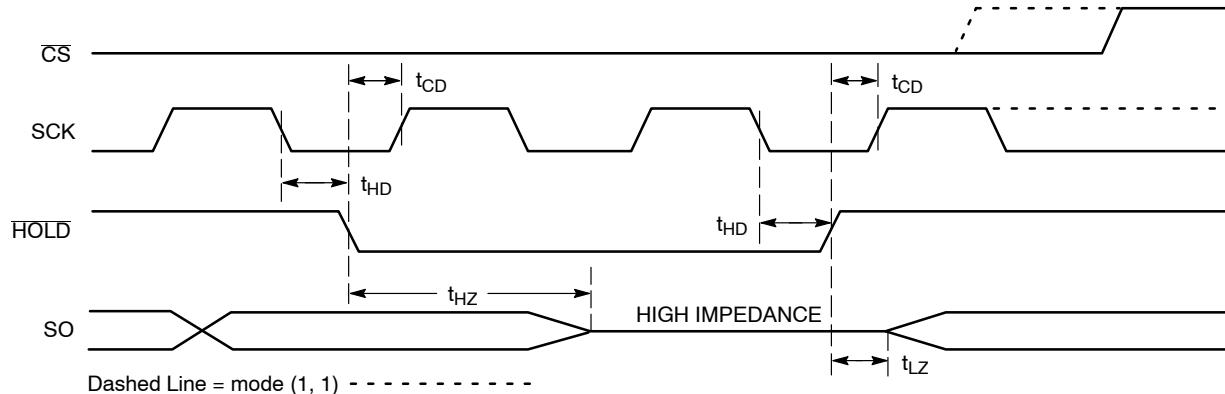

Figure 11. HOLD Timing
The HOLD input can be used to pause communication between host and CAV25080/160. To pause, HOLD must be taken low while SCK is low (Figure 11). During the hold condition the device must remain selected (CS low). During the pause, the data output pin (SO) is tri-stated (high impedance) and SI transitions are ignored. To resume communication, HOLD must be taken high while SCK is low.